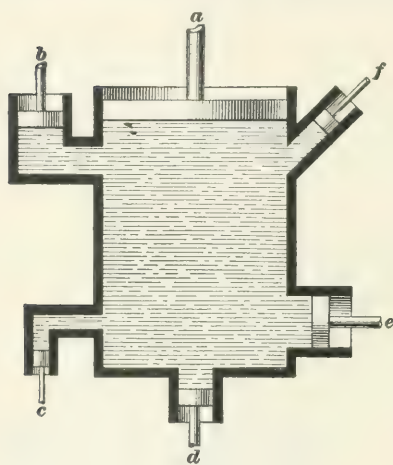

FIG. 2.
4. The foregoing fact may be easily proved experimentally by means of an apparatus like that shown in Fig. 2.
EXAMPLE.—If the area of the piston *e*, in Fig. 2, were 8.25 square inches and a force of 150 pounds were applied to it, what forces would have to be applied to the other pistons to keep the water in equilibrium, assuming that their areas were the same as given before?